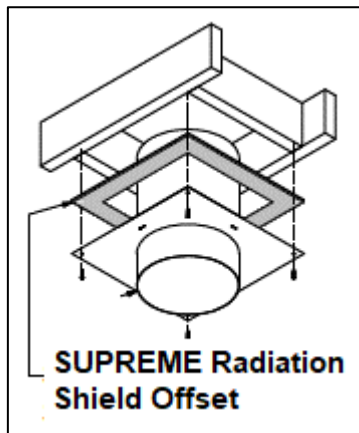

Figure 2-10: SUPREME Radiation Shield Offset
The SUPREME Radiation Shield Offset is a standard component for the Elegance 40 fireplace (Figure 2-10). Prior to installing the chimney manufacturer's radiation shield, the SUPREME Radiation Shield Offset is fastened below the chimney opening within the chase, with the flanges along the component providing a 1/2" offset.
2. For an installation with the chimney running through the ceiling, install the SUPREME Radiation Shield Offset below the chimney opening prior to installing the radiation shield (refer to Figures 2-10 and 3-7).